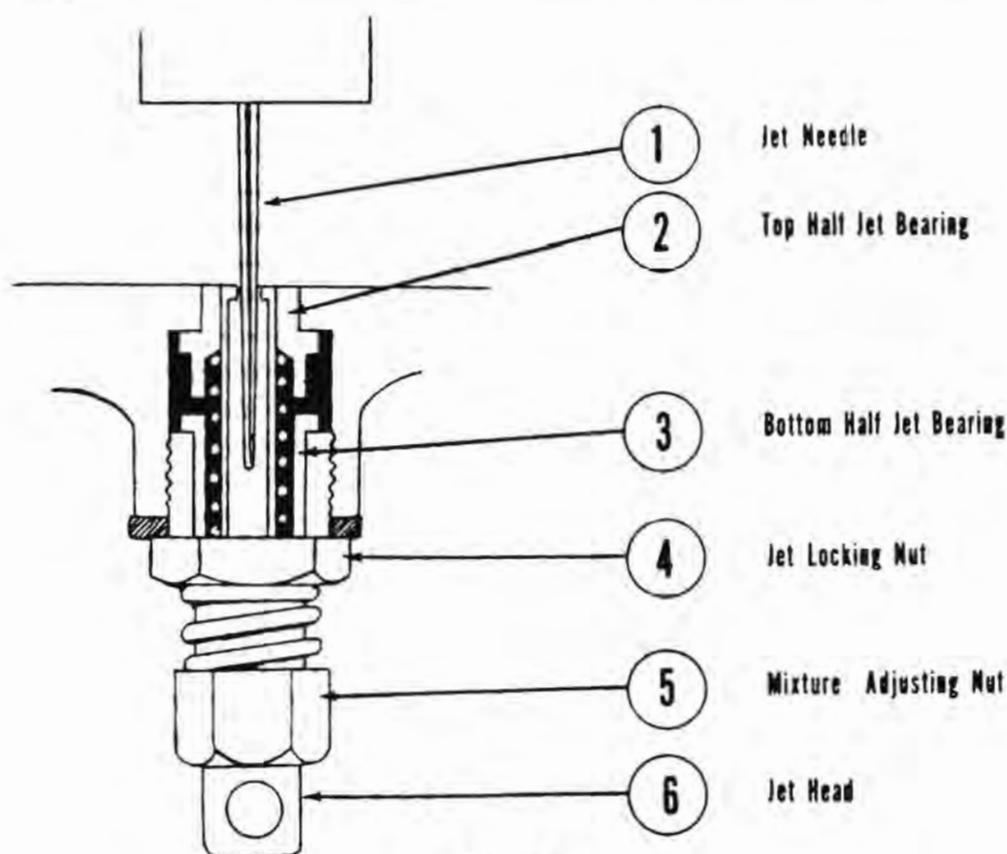

FIG. 43
18. **To Center the Jet** (See Figure 43).
a. Remove the jet head (6), the adjusting nut (5) and spring. Replace the adjusting nut by screwing it up as far as it will go. Slide the jet head all the way until it rests against the bottom of the adjusting nut.
b. Loosen the jet locking nut (4).
d. When the piston action works freely, tighten the jet locking nut (4).